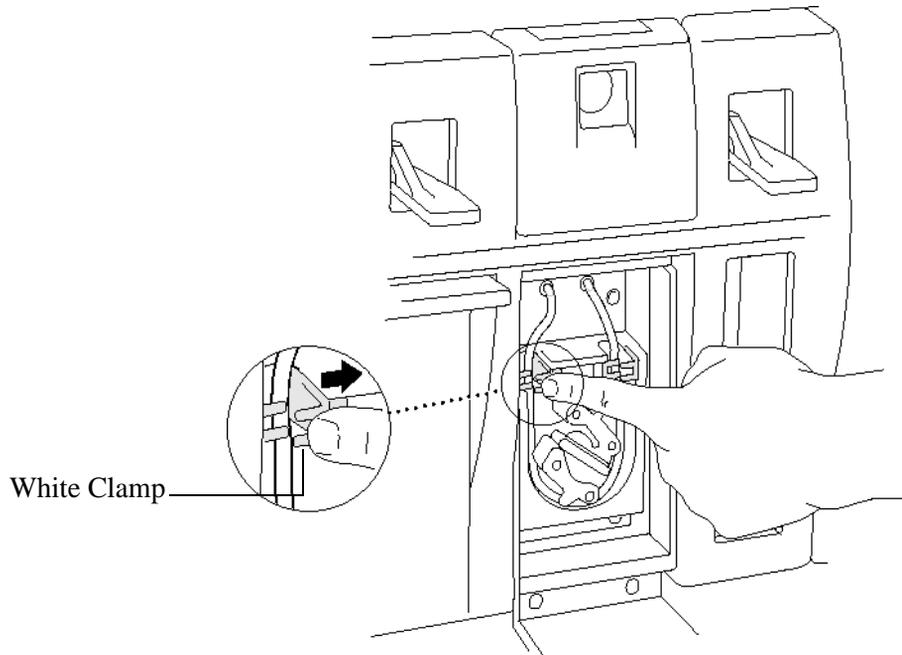

Figure 3.3
2. Open the white clamps to release tubing on both sides. See **Figure 3.3 on page 32**.